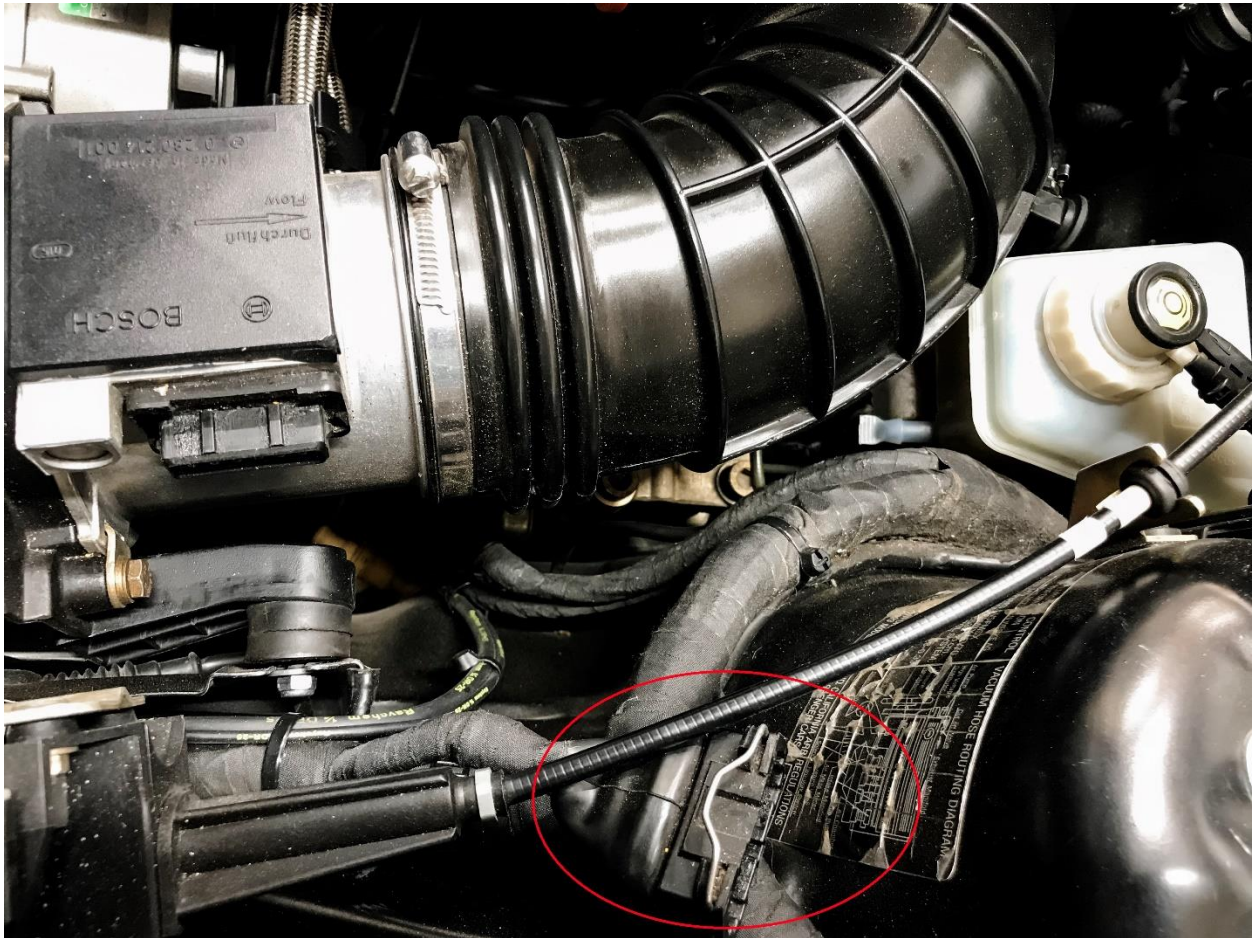

Figure 4
3. Begin by disconnecting the MAF sensor harness by depressing connector release and set harness off to side. Slide under the cruise control cable, see Figure 4 (S38B36 shown).